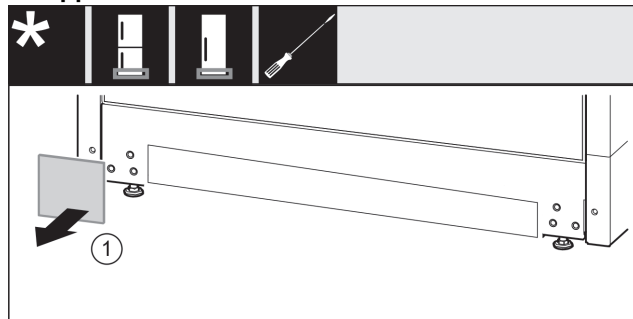

Fig. 38
- ▶ Remove the cover Fig. 38 (1).